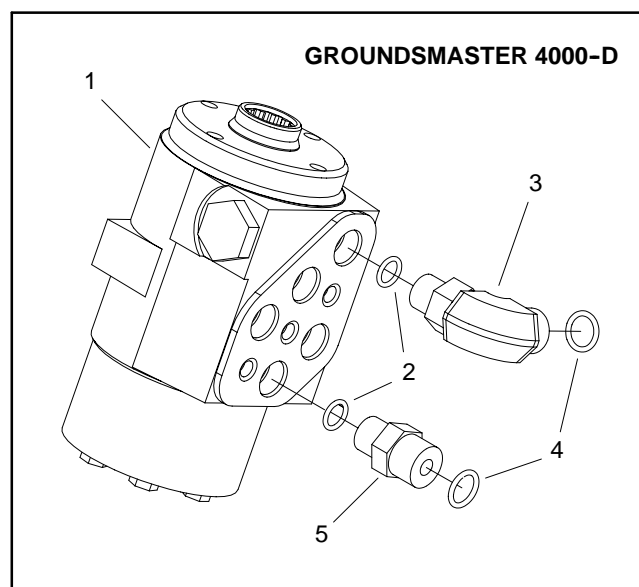

Figure 83
6. If hydraulic fittings are to be removed from steering control valve, mark fitting orientation to allow correct assembly. Remove fittings from valve and discard O-rings (Fig. 83 or 84).
1. If fittings were removed from steering control valve, lubricate and place new O-rings onto fittings. Install fittings into port openings using marks made during the removal process to properly orientate fittings (Fig. 83 or 84). Tighten fittings (see Hydraulic Fitting Installation in the General Information section of this chapter).